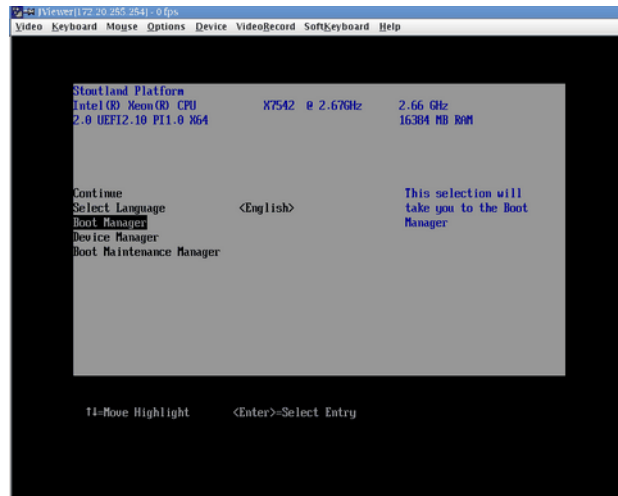

Figure 3-18 BIOS Setup Utility **Boot Manager** Selection
4. From the BIOS setup utility, select **Boot Manager**, as shown in Figure 3-18 on page 58.